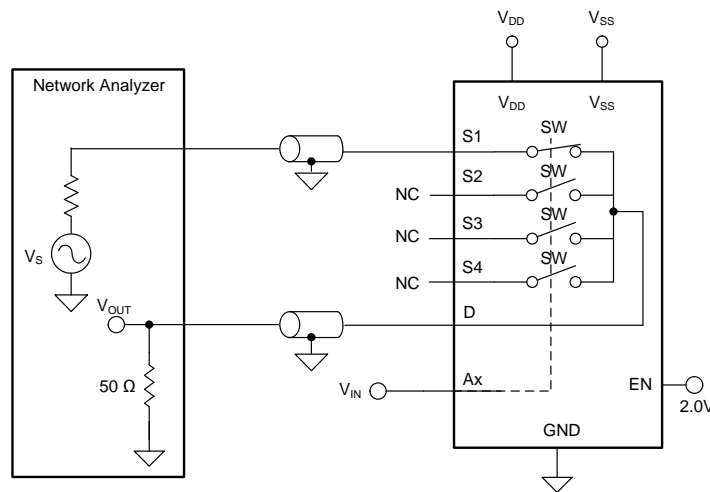

图 26. Bandwidth Measurement Setup
Bandwidth is defined as the range of frequencies that are attenuated by < 3 dB when the input is applied to the source pin (Sx) of an on-channel, and the output is measured at the drain pin (D) of the TMUX6104. 图 26 shows the setup used to measure bandwidth of the mux. Use 公式 4 to compute the attenuation.